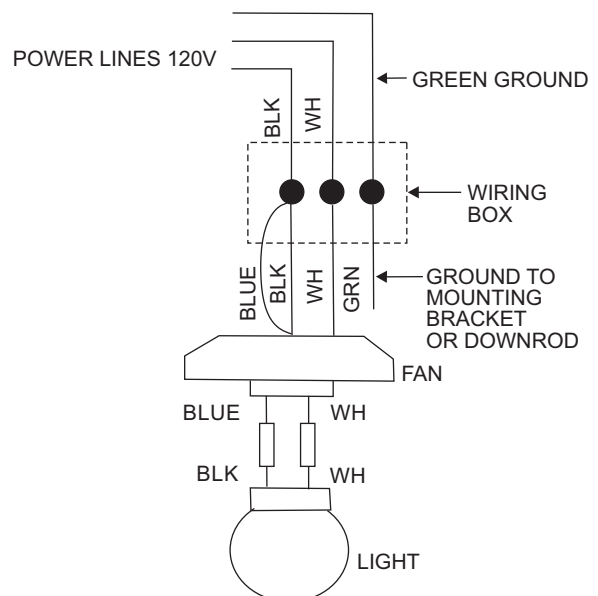

Figure 12
Step 1. Connect the fan supply (black) wire and light supply (blue) wire to the black household supply wire as shown in Figure 12.